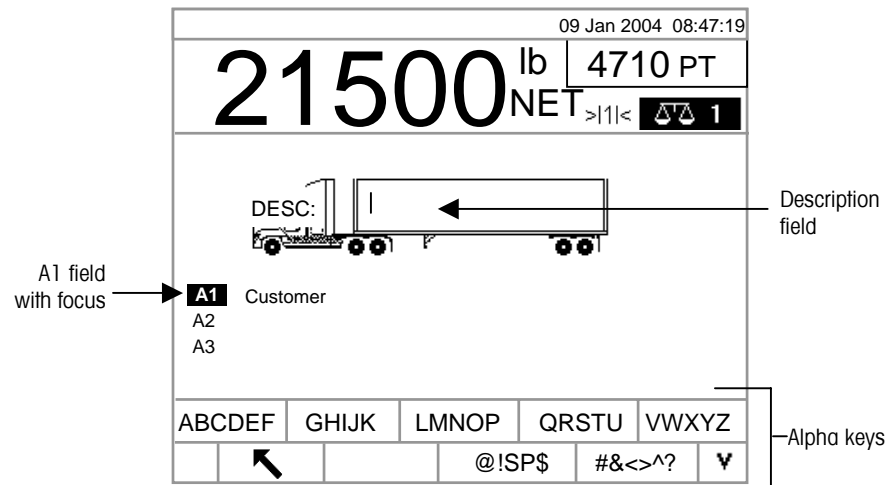

Figure 2-10: Transient Weighing ID Prompt
2. A prompt displays with a cursor in the description field. The softkeys and application keys become alpha keys (see Figure 2-10).
1. The A1 field has focus (is highlighted) when the screen displays. Press the ENTER key to access the A1 field. The softkeys and the application keys become alpha keys (See Figure 2-10.)